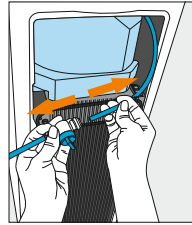

Figure 9
- 5.2 Turn off the water supply via the shut off valve, and disconnect the water supply from the cooler (Figure 9).